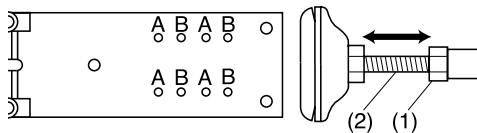

Fig. 4
- Setting drill bit depth - **(Fig. 4)**